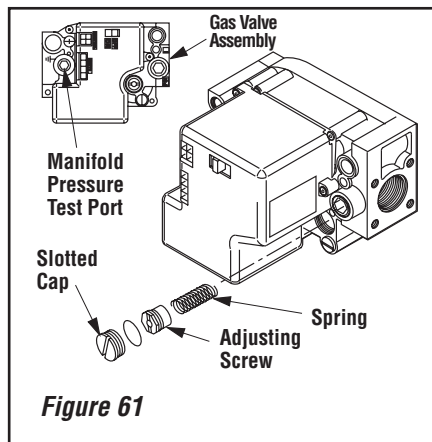

Figure 61
Step 7. Honeywell Electronic Valves - See **Figure 61** and the instructions provided with the kit. Remove the slotted cap screw, o-ring, pressure-regulating adjusting screw and spring. Retain all parts for possible later use. Install new components from the kit. Black cap and red spring for propane gas appliances. Silver cap and stainless steel spring for natural gas appliances. Before installing the cap, attach manometer to the manifold side pressure test fitting and adjust screw until pressure reads 3.5 inches water column (0.87 kPa) for natural gas, and 10.0 inches water column (2.49 kPa) for propane gas.